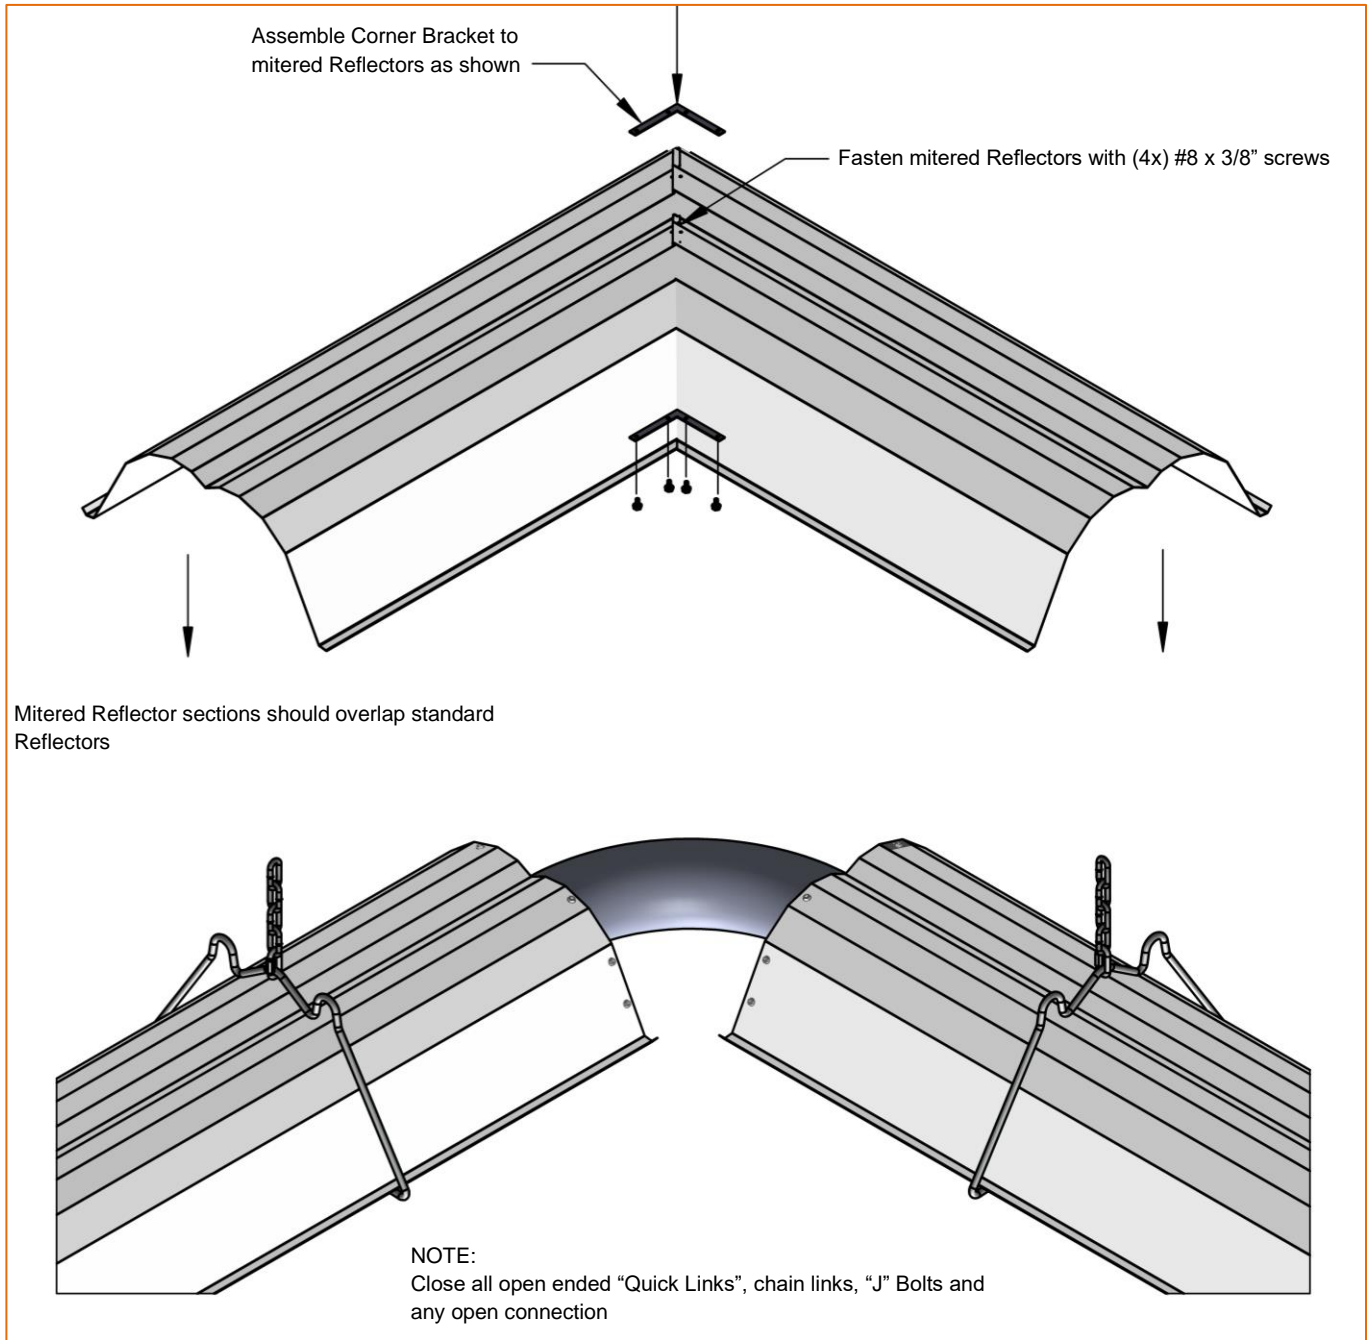

Figure 19: Mitered Reflector Installation
**Note:** Elbows or U-tubes are typically installed without reflectors. To reduce the above clearance to combustibles distance use miter reflectors (see Figure 19) and refer to Clearance to Combustibles information.
- If used, install the Mitered Reflector as shown below (Figure 19).